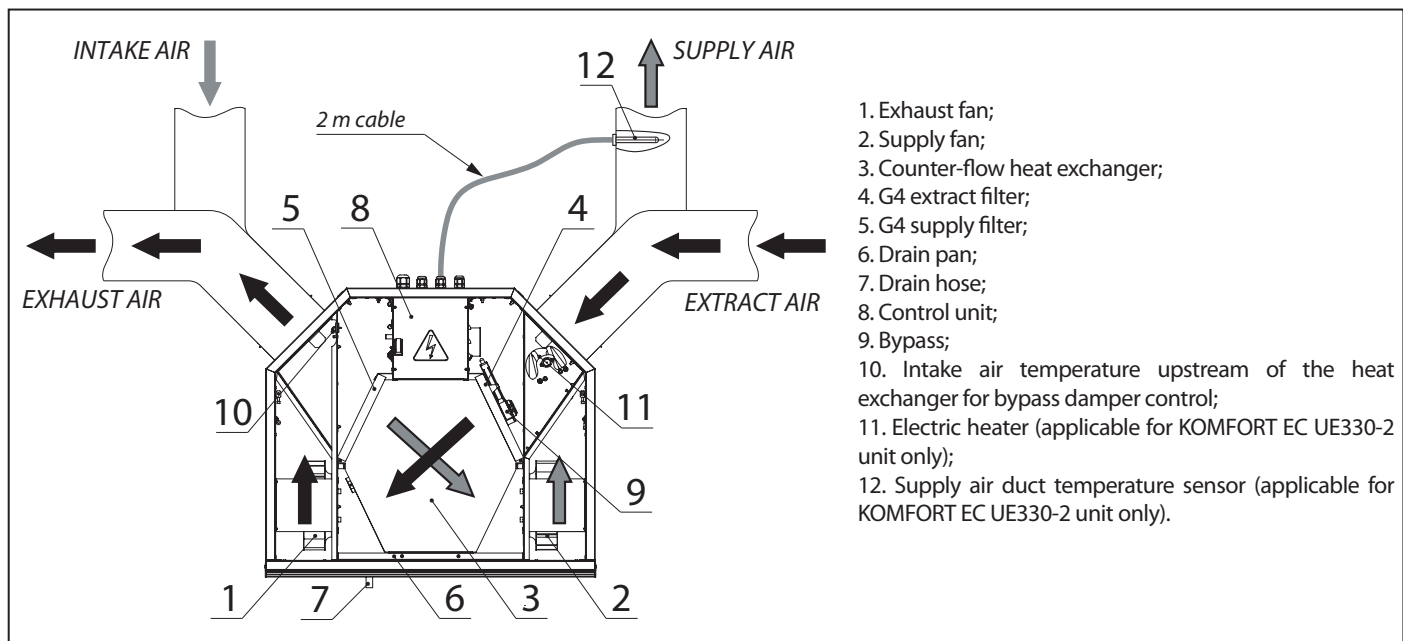

Fig. 1. Structure and operating logic of the unit
To ensure correct supply air heating function of the KOMFORT EC EU330-2 unit install a duct temperature sensor at least 1 m away from the supply air duct end, see item 12, fig. 1.